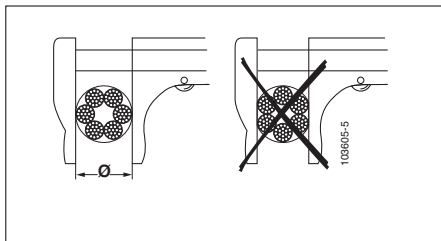

Fig. 5
- reduction of diameter by 10 % compared to the nominal rope diameter (fig. 5);